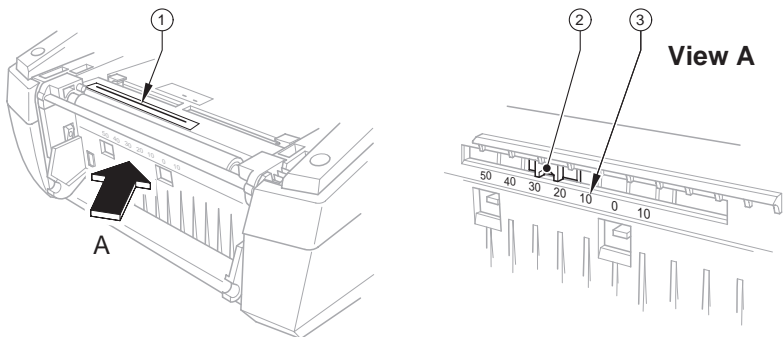

Figure 4, Adjusting the Reflex Sensor
4. Locate the placement slide (**Figure 4, 2**) and the scale (**Figure 4, 3**).
5. Move the slide (**Figure 4, 2**) to the desired position with a pointed tool.